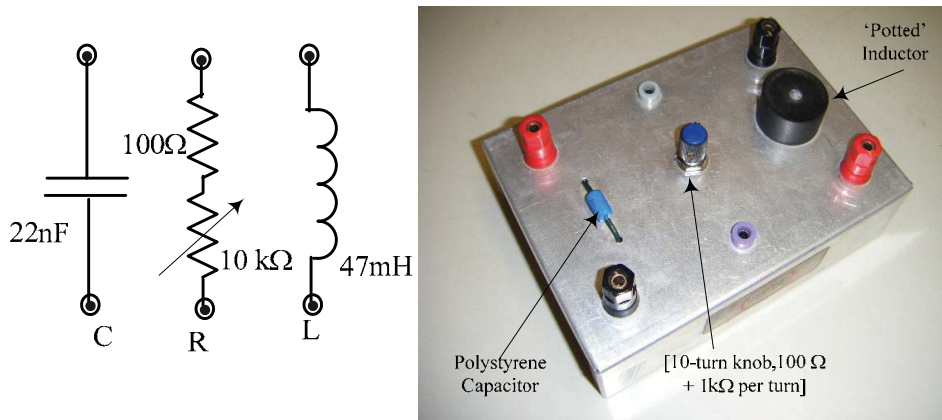

Figure 1.11 : RLC-Chassis and component values
**Experimental Circuit for AC experiments:** An aluminum chassis (the ‘RLC Chassis’) on which R, L and C elements are mounted, as shown in Figure 1.11, is used in the lab for familiarization with the use of the FG and the DSO in AC measurements.
where  $\omega = 2\pi f$  where  $f$  is in Hz. . Use the radian frequencies  $\omega_1$  and  $\omega_2$  and nominal values given for  $L$  &  $C$  given in Figure 1.11 and value used for  $R$ . Calculate the percent difference between the measured and theoretical values using the latter as reference.